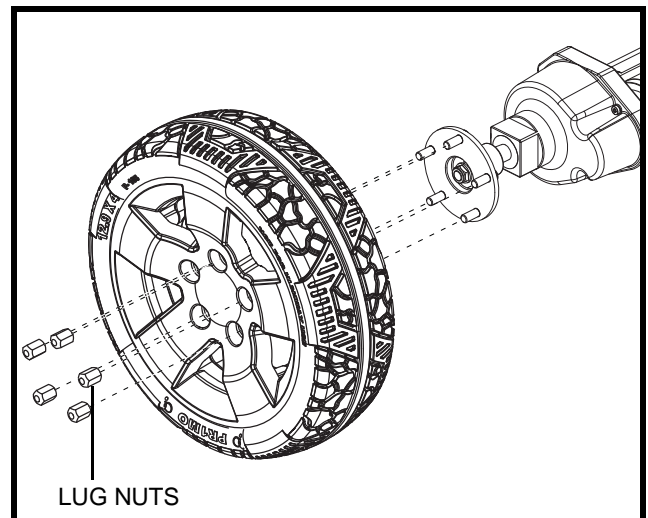

Figure 24. Solid Tire Wheel Removal
3. Remove the lug nuts. **See figure 24.**